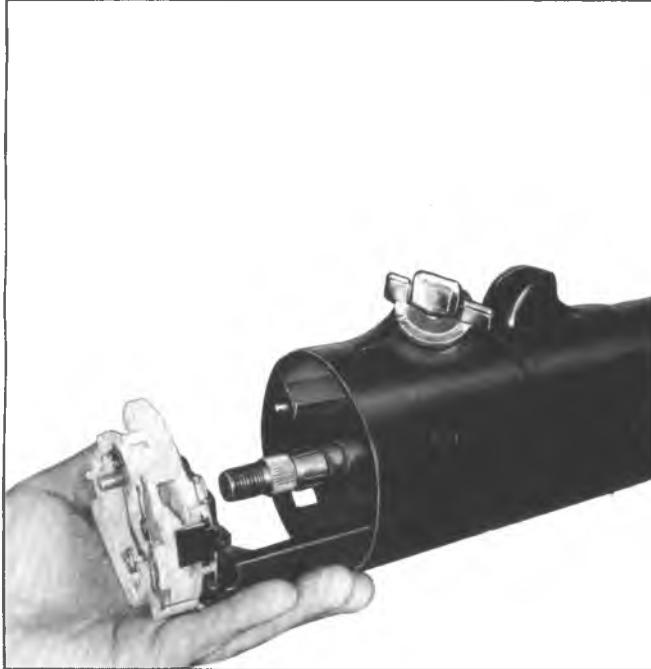

Fig. 3B4-25-Directional Signal Switch
3. Check centering of pin (Fig. 3B4-24).